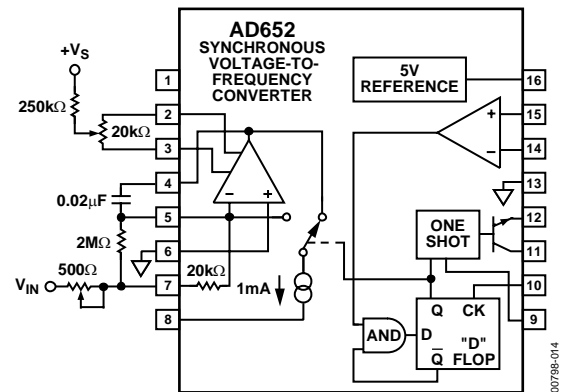
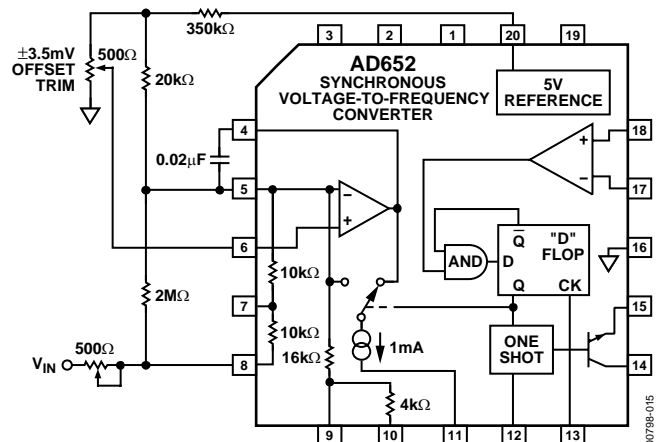

Figure 14. CERDIP Gain and Offset Trim
Figure 15. PLCC Gain and Offset Trim
The gain error of the AD652 is laser trimmed to within $\pm 0.5\%$. If higher accuracy is required, the internal 20 k Ω resistor must be shunted with a 2 M Ω resistor to produce a parallel equivalent that is 1% lower in value than the nominal 20 k Ω . Full-scale adjustment is then accomplished using a 500 Ω series trimmer. See Figure 14 and Figure 15. When negative input voltages are used, this 500 Ω trimmer is tied to ground and Pin 6 is the input pin.
The offset of the op amp may be trimmed to zero with the trim scheme shown in Figure 14 for the CERDIP package and Figure 15 for the PLCC package. One way of trimming the offset is by grounding Pin 7 (8) of the CERDIP (PLCC) device and observing the waveform at Pin 4. If the offset voltage of the op amp is positive, the integrator has saturated and the voltage is at the positive rail. If the offset voltage is negative, there is a small effective input current that causes the AD652 to oscillate; a sawtooth waveform is observed at Pin 4. The potentiometer should be adjusted until the downward slope of this sawtooth becomes very slow, down to a frequency of 1 Hz or less. In an analog-to-digital conversion application, an easier way to trim the offset is to apply a small input voltage, such as 0.01% of the full-scale voltage, and adjust the potentiometer until the correct digital output is reached.